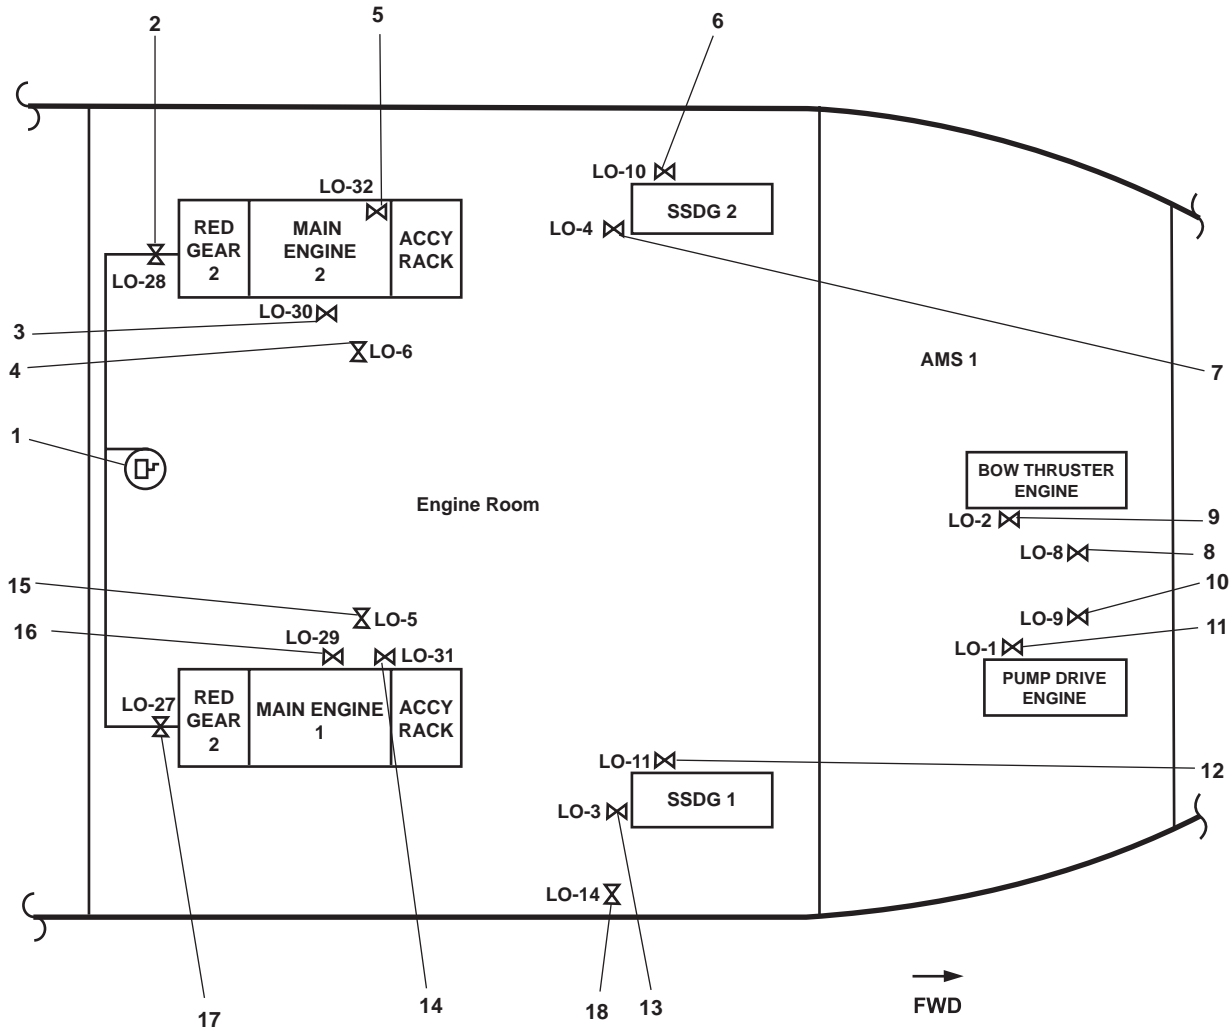

Figure 1. Lube Oil System Valve Locations
- c. Engine coolant level in the port main engine coolant expansion tank sight glass (figure 1, item 1) is between LOW and FULL in the RUN range (figure 1, item 4). If the coolant is not between LOW and FULL, add coolant through the fill cap (figure 1, item 3) until the proper level is achieved. Proper engine coolant is a 50/50 mix of ethylene glycol antifreeze and water.
1. Align the system piping as described in table 1. Refer to figure 1 for valve locations.
3. If draining a reduction gear sump, use the hand pump (figure 1, item 1).
Table 1. Sump Drain Valve Alignment (Refer to Figure 1 for Valve Locations)
2. Align the system piping as described in table 2. Refer to figure 1 for valve locations.
Table 2. Sump Fill Alignment (Refer to Figure 1 for Valve Locations) (continued)